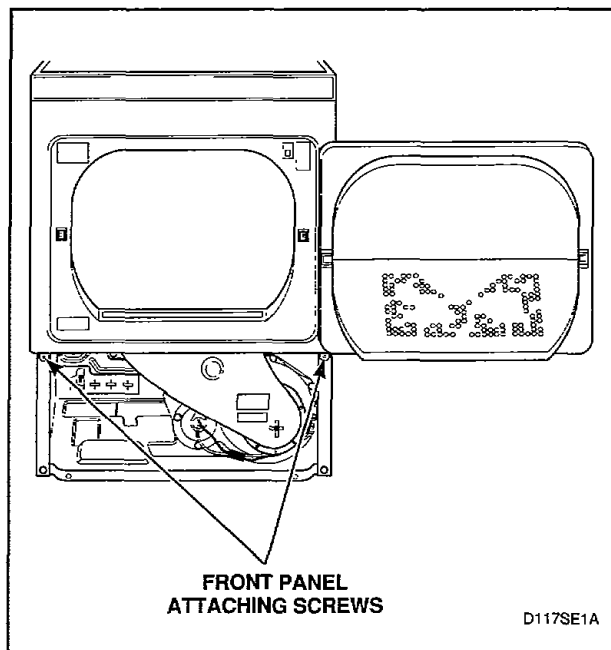

Figure 10
- Remove two screws holding bottom tabs on front panel to dryer cabinet. Swing front panel away from dryer to disengage hold-down clips and guide lugs from cabinet top, *Figure 10*.
- j. Remove two screws holding bottom tabs on front panel to dryer cabinet. Swing front panel away from dryer to disengage hold-down clips and guide lugs from cabinet top, *Figure 10*.
- Remove two screws holding bottom tabs on front panel to dryer cabinet. Swing bottom of front panel away from dryer to disengage hold-down clips and guide lugs from cabinet top, *Figure 10*.